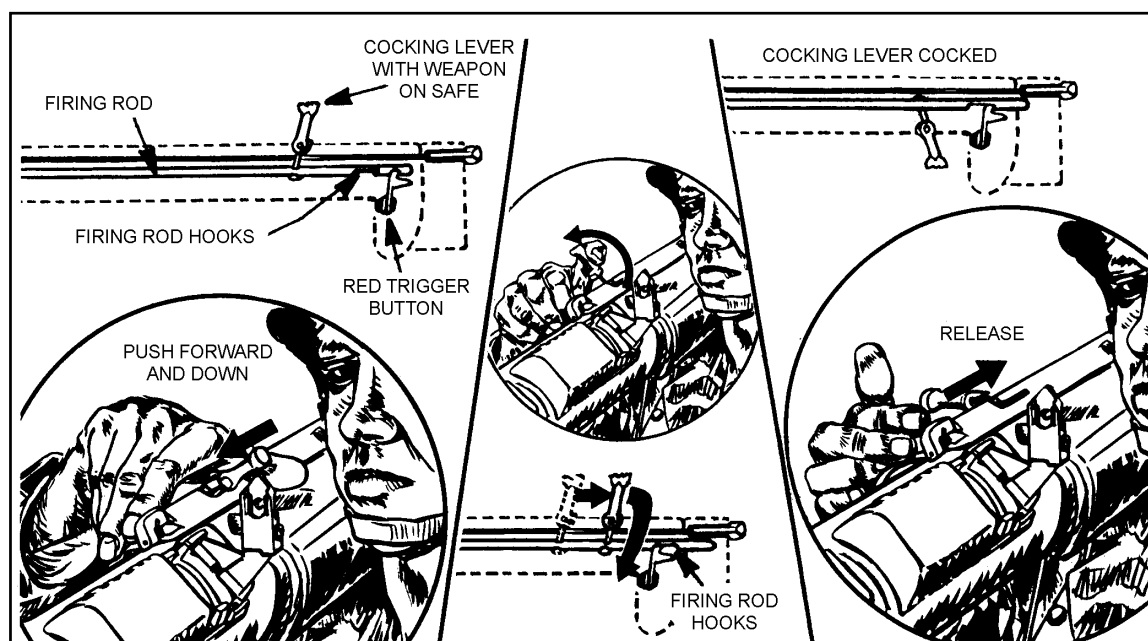

Figure 3-8. Cocking lever.
b. **Cocking Lever.** When this lever, which is attached to the firing rod (Figure 3-8), is in the SAFE position, the firing rod and the trigger cannot touch. To cock the AT4, push the lever forward and rotate it downward and to the right with your right thumb. This causes the hooks on the front of the firing rod to catch and hold the red trigger button.